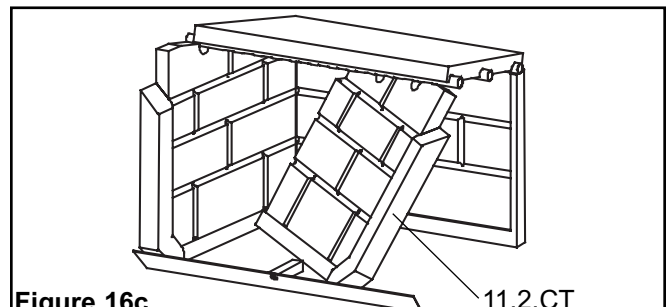

Figure 16c
- 5. Insert the refractory brick on the right side (11.2.T) of the firebox but do not position it yet. Ensure that it is resting firmly on the rear refractory brick as shown in Figure 16c.